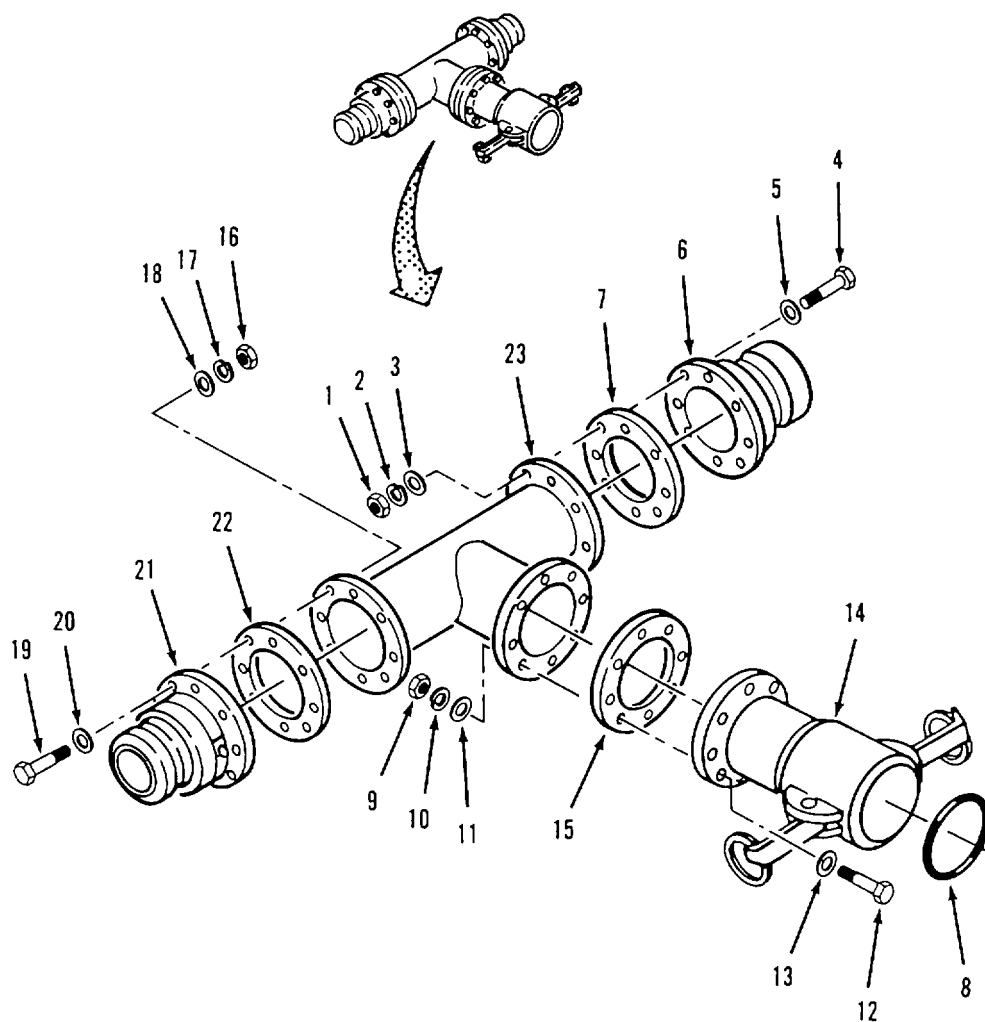

Figure 4-26. Tee Assembly (9112-Y4) Assembly.
- e. Assembly Refer to figure 4-26.
- (1) Position gasket (22) and male coupling (21) on tee (23).
- (2) Install eight flat washers (20), screws (19), flat washers (18), lockwashers (17) and nuts (16).
- (3) Position gasket (15) and female coupling (14) on tee (23).
- (4) Install eight flat washers (13), screws (12), flat washers (11), lockwashers (10) and nuts (9).
- (1) Inspect bonnet (10) and valve body (17) for cracks, scored mating surfaces, stripped threads and corrosion.
- (2) Inspect for bent stem (12) and galled or stripped threads.
- (3) Inspect sealing surfaces of discs (14 and 15) and valve body (17) for deep scratches and cracks.
- (4) Inspect male coupling (9, figure 4-26) for cracks and corrosion.
- (5) Inspect female coupling (19) and cap (3) for cracks and broken locking arms.